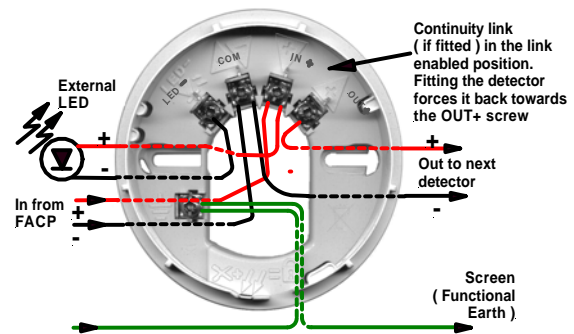

Figure 2: Wiring Diagram showing Single Remote LED
4. Cable to the base as shown in Figure 2. The earth terminal is provided for connecting the screen or functional earth as required.